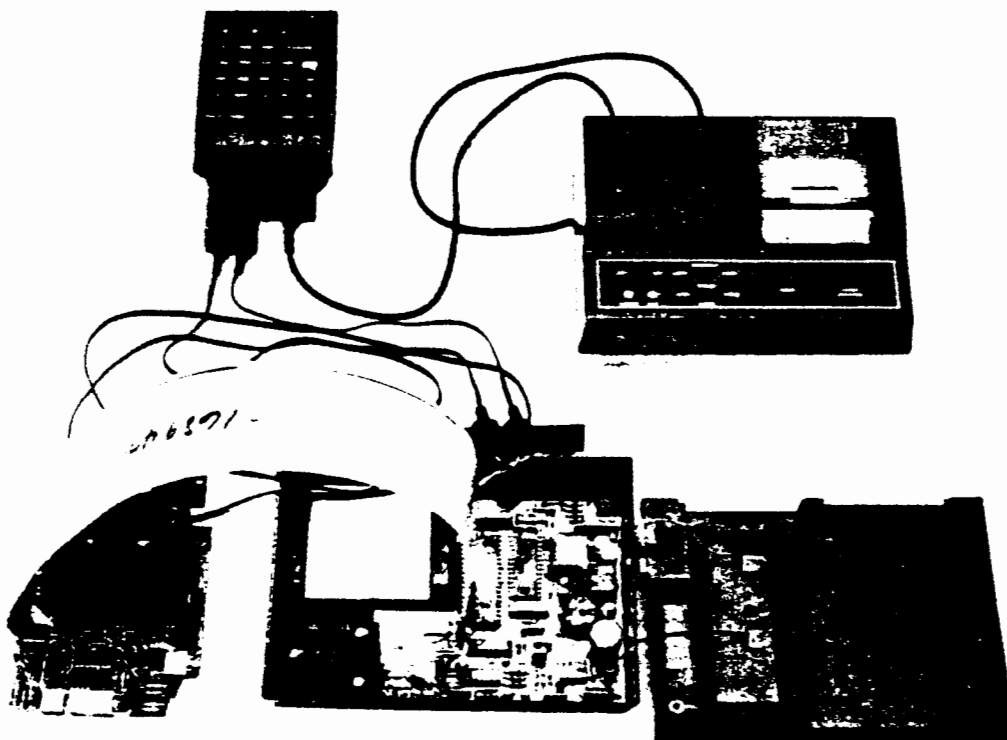

Figure 4-6. Test System
1. Turn OFF-STANDBY-ON switch to the off position and connect the cassette drive to the test calculator system, which consists of an HP-41CV calculator (or an HP-41C calculator and an HP 82170A Quad-Memory Module), an HP 82160A HP-IL Module, an 82161-60907 Diagnostic ROM, and an HP 82143A Printer (optional). (See figure 4-6.)